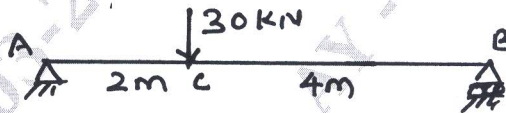

Fig Q4(b)
- b. Using Conjugate beam method determine maximum slope and maximum deflection for the simply supported beam shown in Fig Q4(b).  $E = 204 \times 10^6 \text{ kN/m}^2$  and  $I = 50 \times 10^6 \text{ m}^4$ .